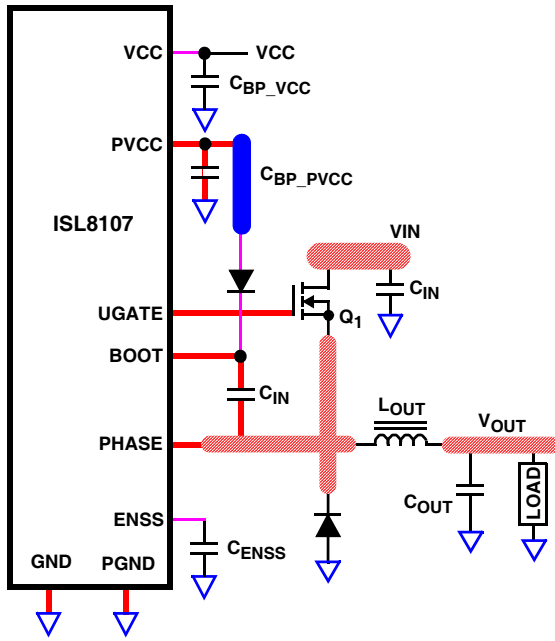

**FIGURE 16. ASYMPTOTIC BODE PLOT OF CONVERTER GAIN**
Figure 16 shows an asymptotic plot of the DC/DC converter's gain vs frequency. The actual Modulator Gain has a high gain peak dependent on the quality factor (Q) of the output filter, which is not shown. Using the previous guidelines should yield a compensation gain similar to the curve plotted. The open loop error amplifier gain bounds the compensation gain. Check the compensation gain at  $F_{P2}$  against the capabilities of the error amplifier. The loop gain,  $G_{LP}$ , is constructed on the log-log graph of Figure 16 by adding the modulator gain,  $G_{vd}$  (in dB), to the feedback compensation gain,  $G_{COMP}$  (in dB). This is equivalent to multiplying the modulator transfer function and the compensation transfer function and then plotting the resulting gain.